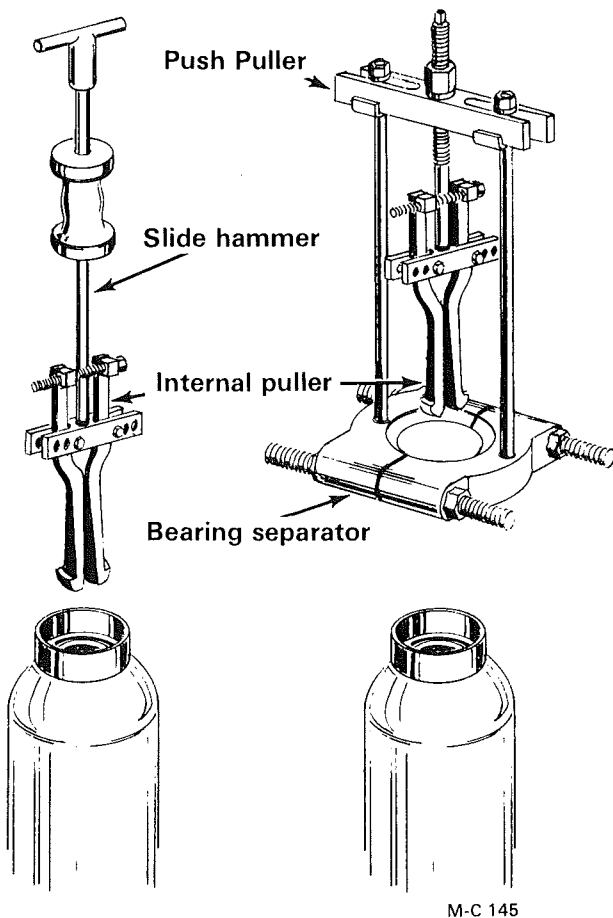
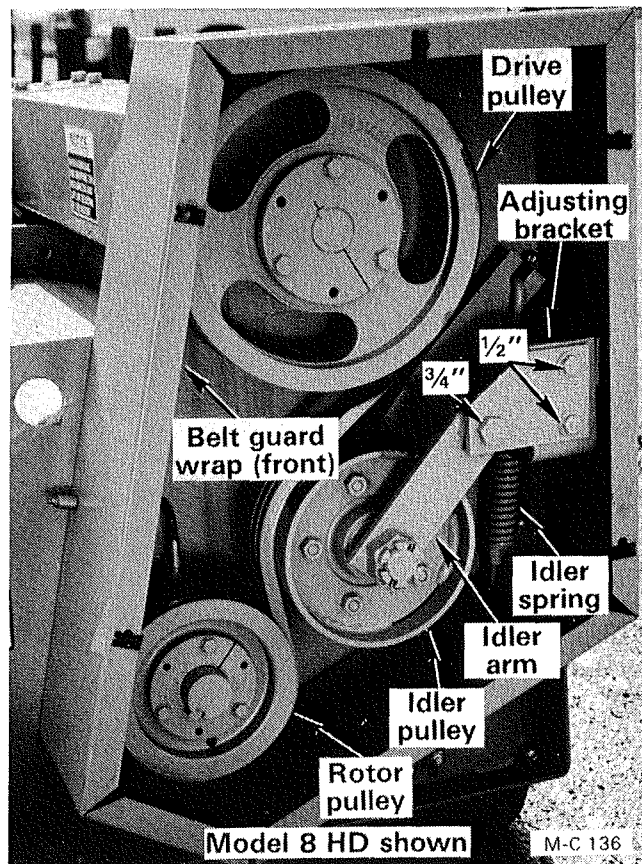

Figure 27
Figure 35
1. Heat the end of the gauge roller with a torch and use an internal bearing puller, like those shown in Figure 27, to remove the bearing from the end of the gauge roller.
2. Remove the two $\frac{1}{2}$ " and one $\frac{3}{4}$ " capscrew in the adjusting bracket and remove the idler arm and pulley assembly see Figure 35.
3. Remove cotter pin (12), castellated nut (13) and idler bolt (3) from the idler arm (2).
4. Use an internal puller, see Figure 27, page 20, to remove the bearing seals (6) and bearing cups (8).
5. Pack the new bearing cones (7) with a good grade of wheel bearing grease. Press the bearing cups (8) into the hub, install the bearing cones (7) and press in the bearing seals (6).
6. Put a hub spacer (5) on each side of the hub assembly and place the assembly in the idler arm (2). Install idler bolt (3) and castellated nut (13). Tighten the nut just enough to hold the assembly together.
7. Put the idler pivot bushing (ref. 33, page 28) in the idler arm and install the idler pulley assembly and adjusting bracket, see Figure 35. Do not tighten the two $\frac{1}{2}$ " and $\frac{3}{4}$ " capscrews until after the idler pulley alignment has been checked.